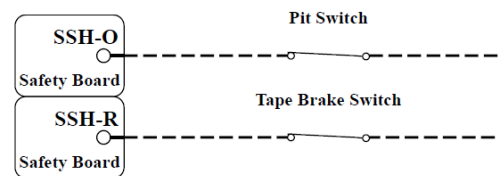

Figure 8: Safety String Wiring
13. Bring a pair of hoistway wires to connect the safety string circuit from the safety board to the tape break switch. See Figure 8 for safety board connection.